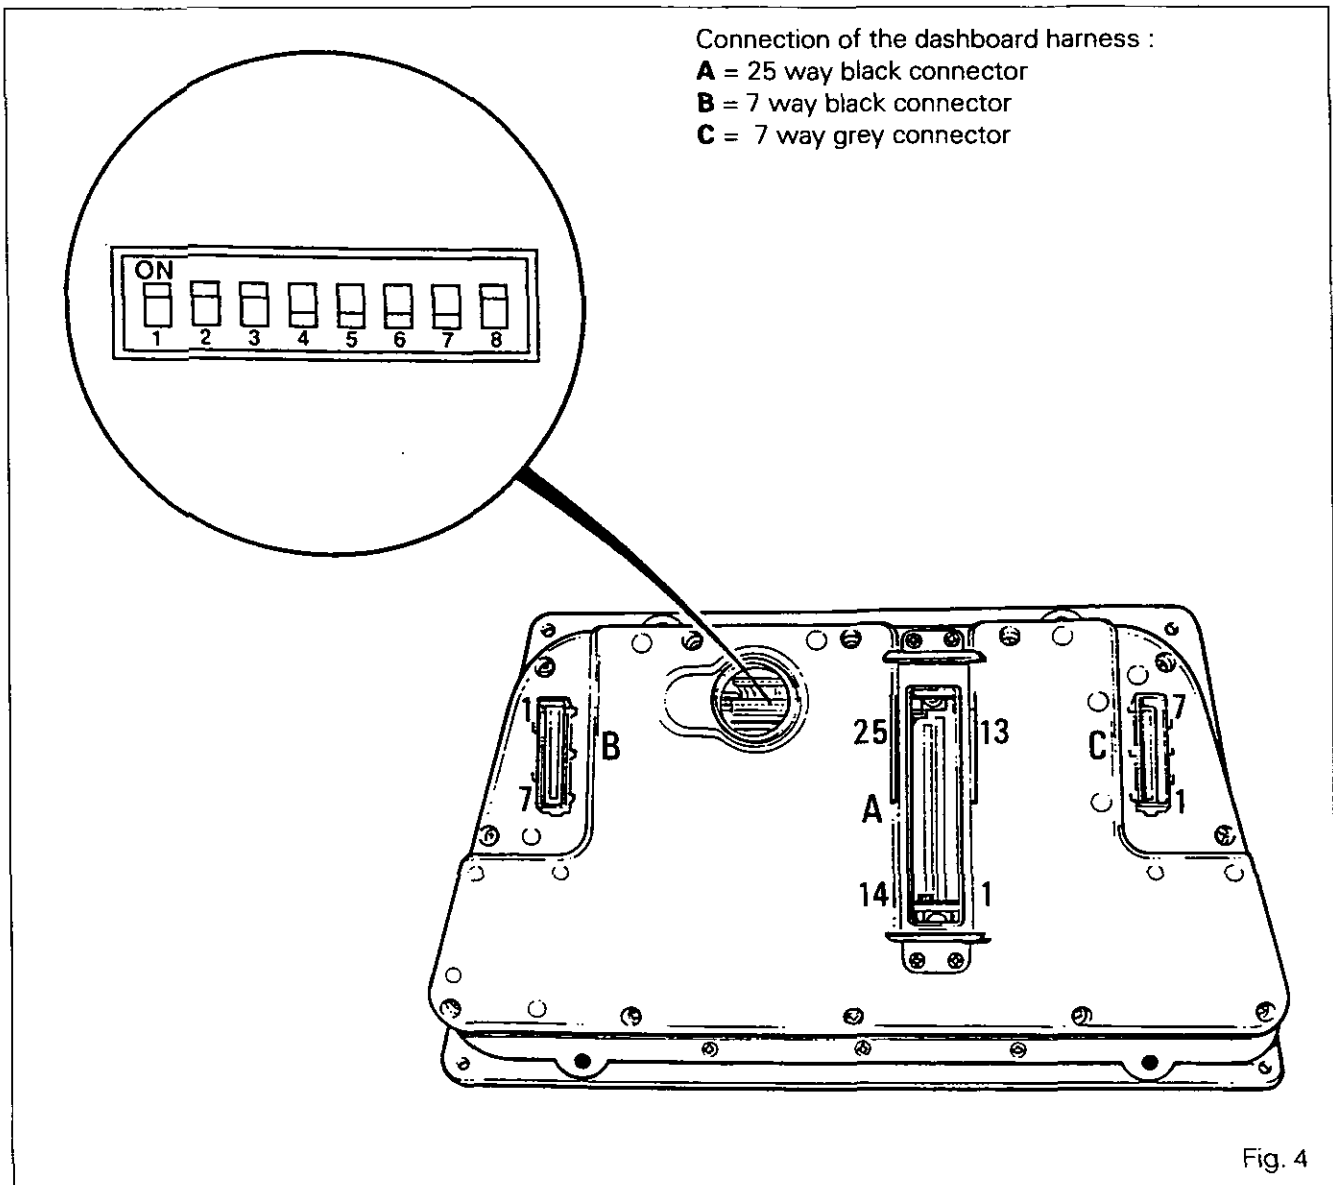

Fig. 4
The calculator is programmed by means of eight micro-switches numbered from 1 to 8 and located on the electronic card inside the dashboard, they are accessible from the back of the latter (Fig. 4).
- . column (2) for a tyre combination with smaller rolling circumferences.
- . column (3) for a tyre combination with larger rolling circumferences.
- Connect the harness connectors (Fig. 4).